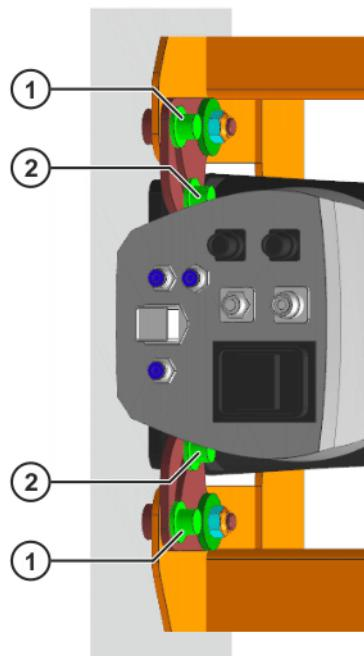

Fig. 8-7: Removing the top screws
13. Unscrew 2 M12x30 Allen screws (top Allen screws) and washers from the top of the base frame (**>>> Fig. 8-7**).